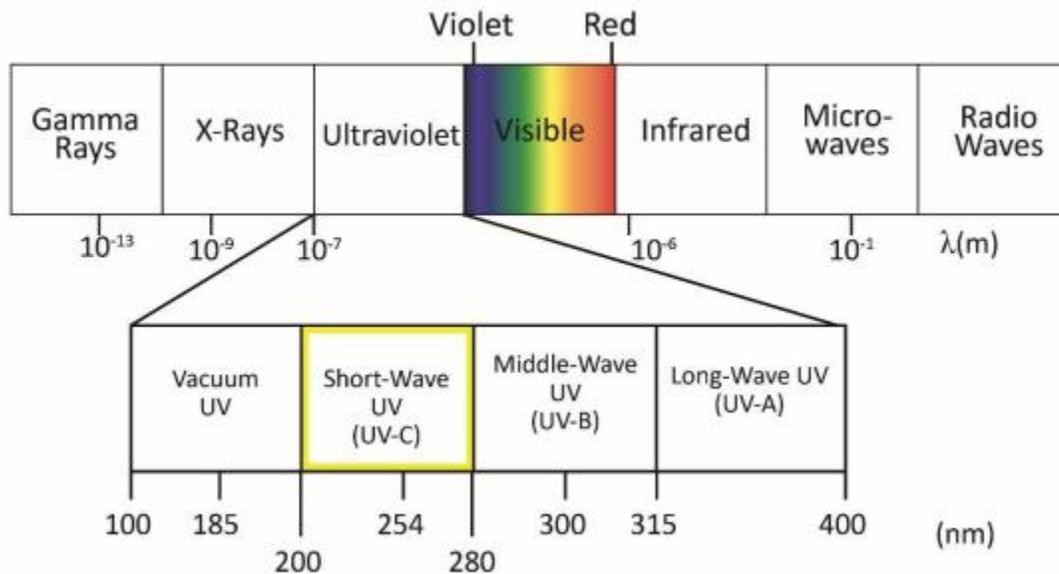

Figure 1: Electromagnetic Spectrum highlighting the ultraviolet portion² [2].
Ultraviolet light (UV) is a form of electromagnetic radiation with wavelengths that are shorter than visible light radiation. As shown in Figure 1, UV radiation is classified into several types across wavelength ranges. Most people associate UV radiation with UV-A and UV-B, which come from sunlight and transfer through the atmosphere. UV energy (regardless of type) is absorbed by human skin, and the skin's natural defense (a pigment called melanin) attempts to convert the UV energy to heat. If there is too much UV energy, melanin cannot keep up, and the skin cell DNA is damaged, leading to sunburn or melanoma.